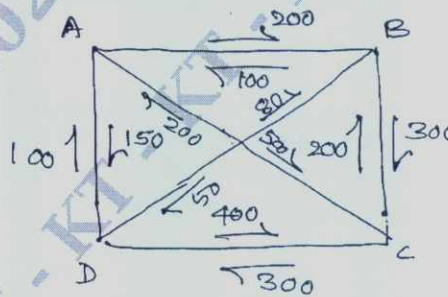

Fig. Q5 (c)
c. The following Fig. Q5 (c) shows trip distribution for the base year.